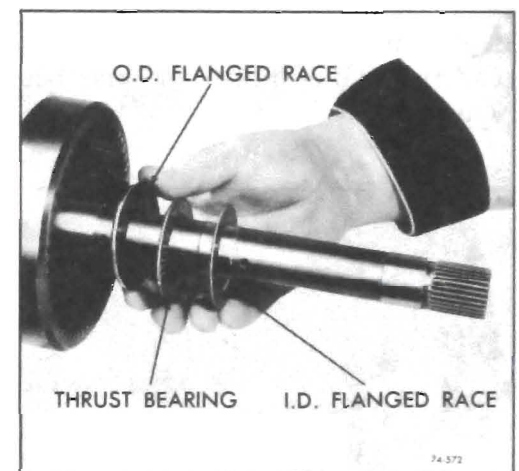

Figure 76-572
13. Remove rear internal gear to sun gear thrust bearing and two (2) races. See Figure 76-572.